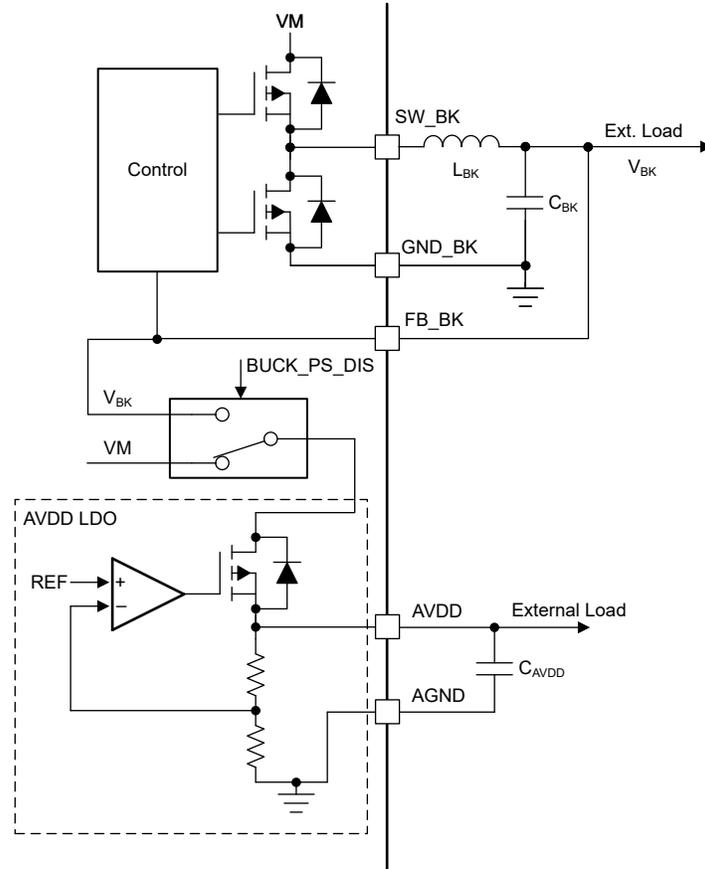

Figure 7-5. AVDD Power Sequencing from Mixed Mode Buck Regulator
The AVDD LDO has an option of using the power supply from mixed mode buck regulator to reduce the device power dissipation. The power sequencing mode allows on-the-fly changeover of AVDD LDO input from DC mains (VM) to buck output (V_{BK}) as shown in Figure 7-5. This sequencing can be configured through the BUCK_PS_DIS bit. Power sequencing is supported only when buck output voltage is set to 5-V or 5.7-V.